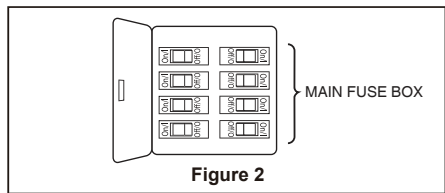

Figure 2
- ☐ 2. Securely attach and tighten the canopy screw cover over the shoulder screws in the hanger bracket utilizing the key slot twist-lock feature. (Figure 2)
- ☐ 2. Restore electrical power to the outlet box by turning the electricity on at the main fuse box. (Figure 2)